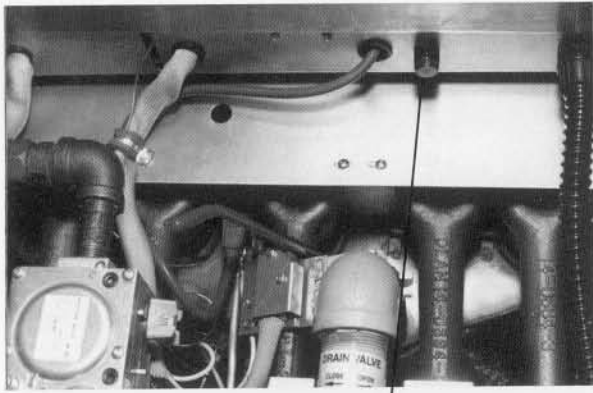

Figure 13
1. Remove fuse holder cap under component box and remove defective fuse (Fig 13).
- Remove top cap (Fig. 13).